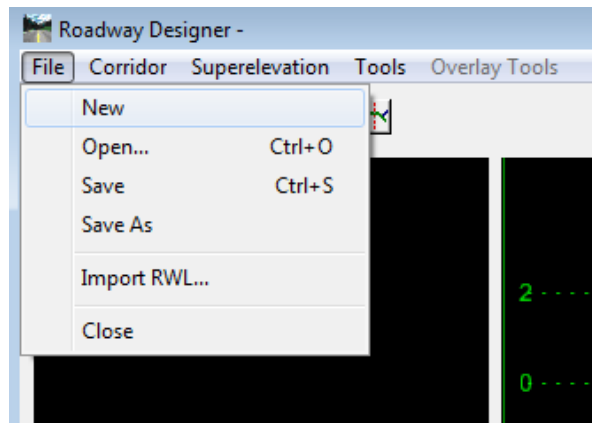

Figure 1-7 InRoads Roadway Designer Creating a New File
- K. Create and Save the **.ird** (Roadway Designer) file. Click to **Modeler > Roadway Designer...** on the InRoads Menu Bar. In the roadway designer choose **File > New** as shown in Figure 1-7 and input project name (xx_xxx), for this lab use **Roadway_Designer** in the File Name field. Click **Save**, **Cancel** and **Close** the Roadway Designer.